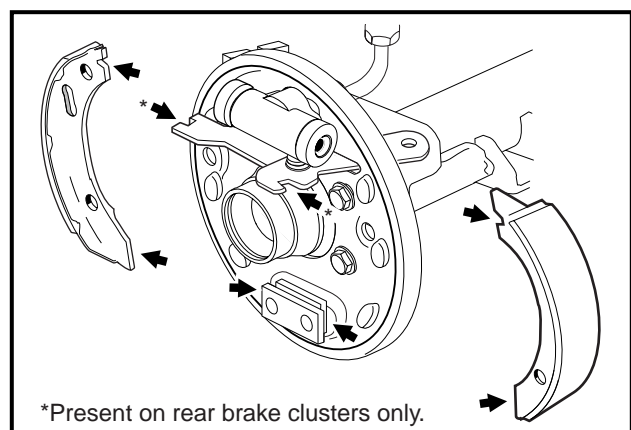

Figure 6-9 Lubricate Brake Cluster
8. Use a small brush to carefully apply a liberal amount of white lithium NLGI Number 2 grease (Dow Corning BR2-Plus or equivalent) to each end of both brake shoes and into the slots in the brake shoe mounting block as shown. For rear brake clusters, apply grease to the notches in the mechanical park brake mechanism as shown (**Figure 6-9, Page 6-11**). See preceding **WARNING**.